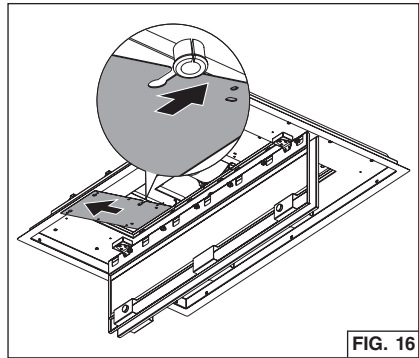
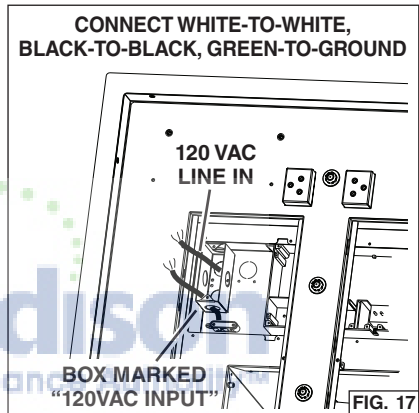

FIG. 16
FIG. 17
3. From the room interior, pull down both closure panels. Fig. 16.
4. Remove (4) screws from the electrical compartment access panel. Slide the panel sideways to expose the electrical wiring box.
5. From the electrical box marked "120 VAC Inlet," remove (2) screws that secure the cover to the metal wiring box. Fig. 17.
9. Replace the electrical compartments access panel and (4) screws.